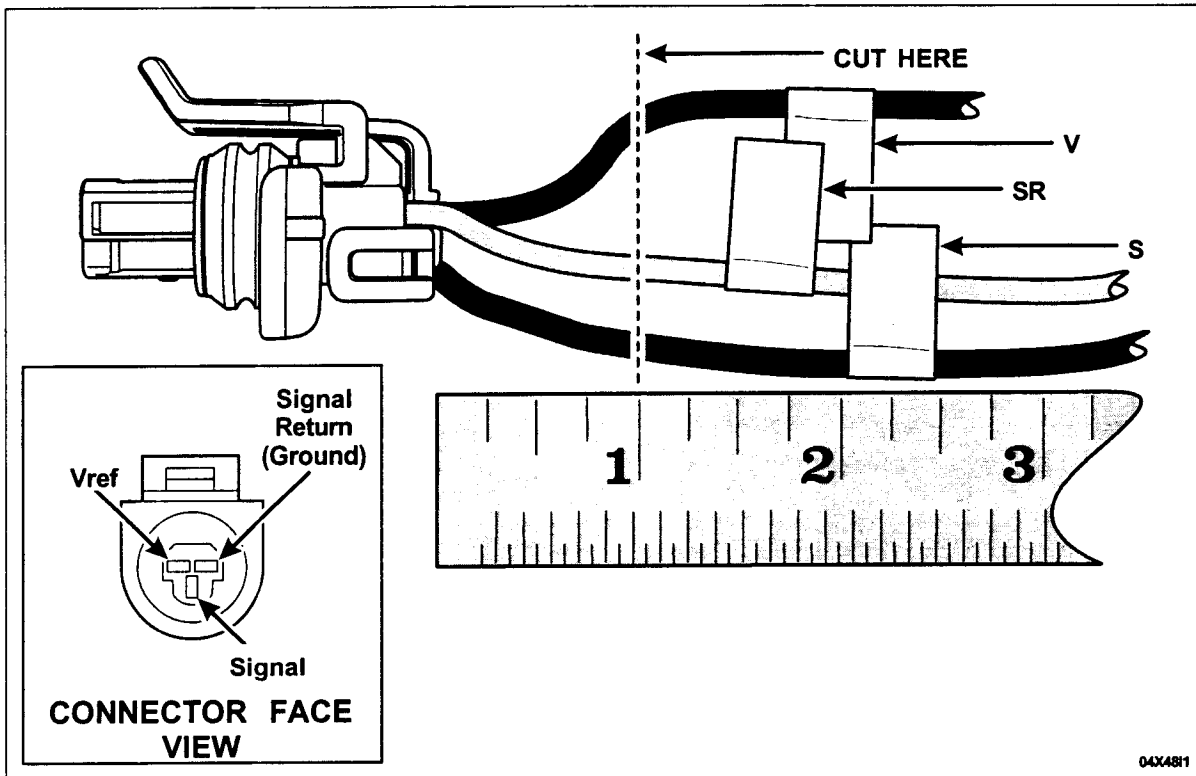

FIGURE 10
Identify each wire leading to the connector (Vref, Ground and Signal). Note the locations of each wire relative to the connector face view provided. Place the identification tags at least a few inches away from the connector. See Figure 10.
4. Cut the wires about 25 mm (1 inch) behind the connector on the vehicle harness **MAKING SURE TO LEAVE THE IDENTIFYING TAGS ON THE HARNESS** and discard the old connector. See Figure 10.